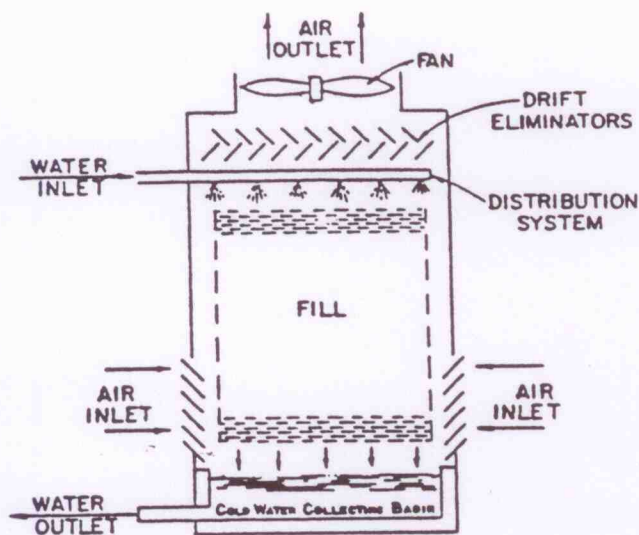
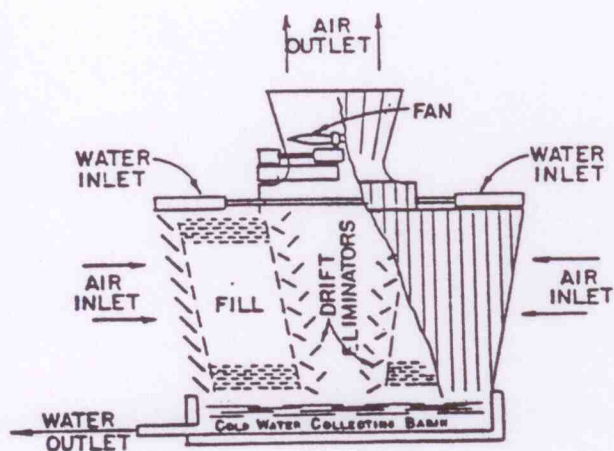

Figure 5. Induced-draft, counterflow cooling tower (Courtesy Buckman Laboratories, Inc.)
Figure 6. Induced-draft, crossflow cooling tower (Courtesy Buckman Laboratories, Inc.)
- Induced draft towers which include counter-flow (Fig. 5, air moves up through tower fill) and crossflow (Fig. 6, air moves horizontally across tower fill). In forced draft tower installations, air is blown into the tower from the side or bottom.